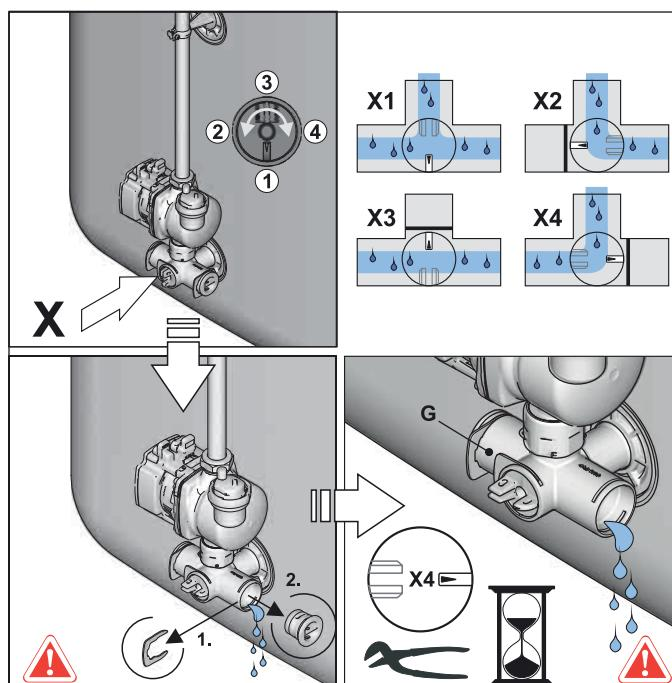

Fig. 6-5 Shutting off the valve insert and removing the blanking plug from the connecting angle
- Adjust the valve insert on the connecting angle so that the path to the blind plug is blocked off (fig. 6-5).
- Remove the blanking plug from the connecting elbow (fig. 6-5) and place a suitable collection trough beneath the unit.
- Adjust the valve insert on the connecting angle so that the flow to the drain hose is opened (also refer to fig. 6-5) and drain the water content of the storage tank.